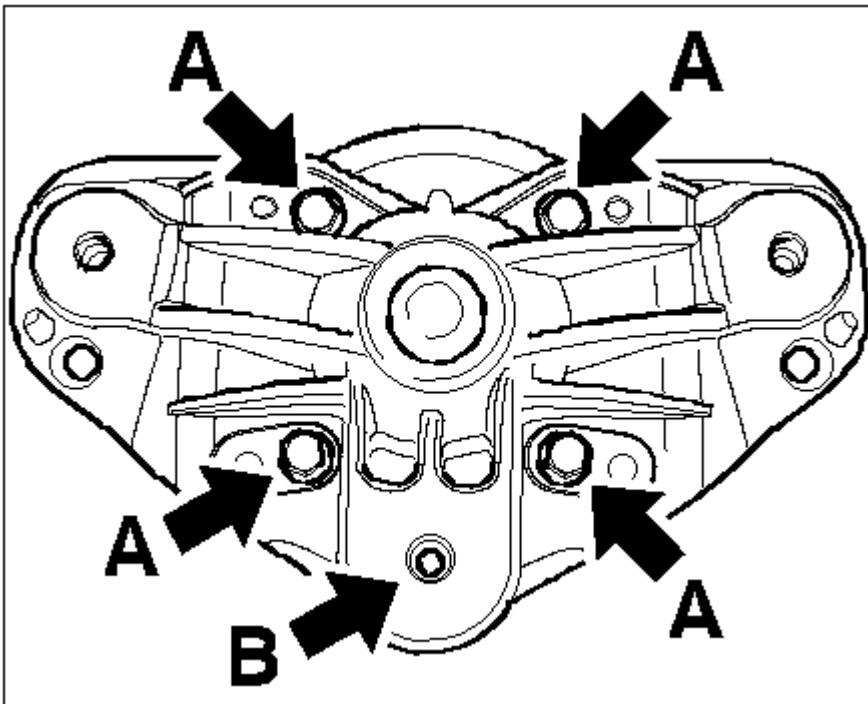

Fig. 48: Fitting mounting saddle
9. Fit mounting saddle -**Screws A**- and align it so that the upper arm of the bearing -**B**- points to the residual pressure retaining valve. See **Fig. 48**.